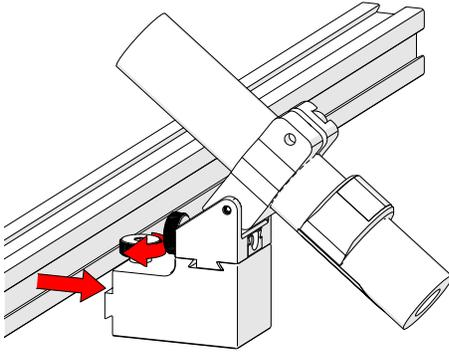

Fig. 79 - Attach to dovetail jaw
2. Affix the perpendicular mount to the scanner's appropriate dovetail jaw (Fig. 79).